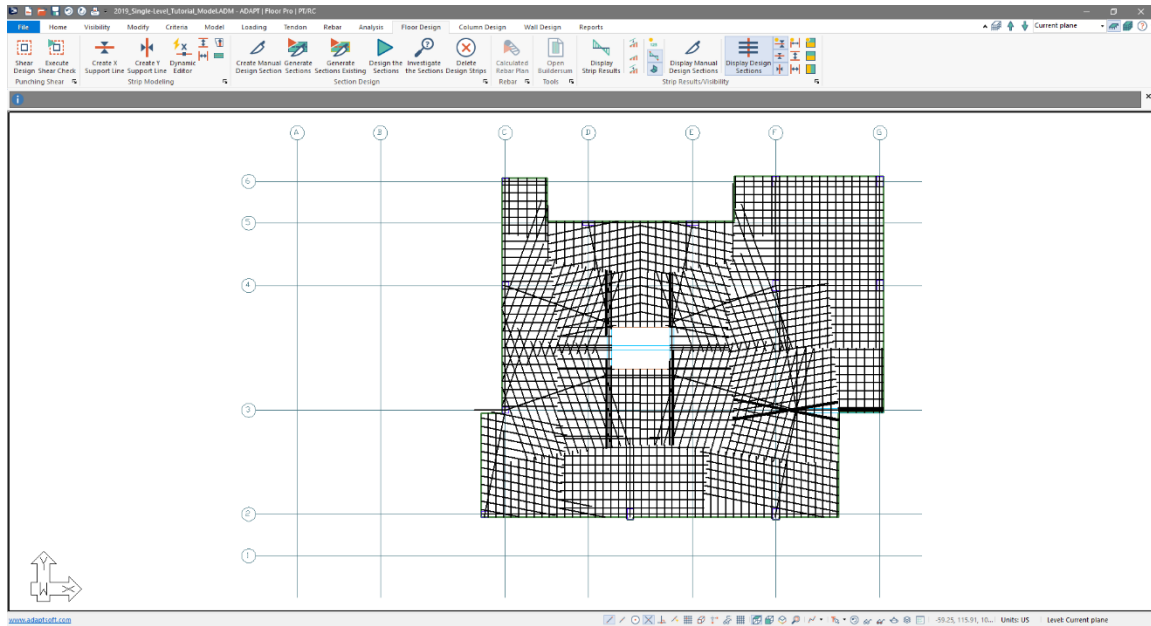

FIGURE 8-7
- Go to *Floor Design* → *Section Design* and click the *Generate Sections New*  icon to create the new tributaries and sections based on only the column strips in the model. When complete the user’s screen should be similar to that shown in **FIGURE 8-7**.